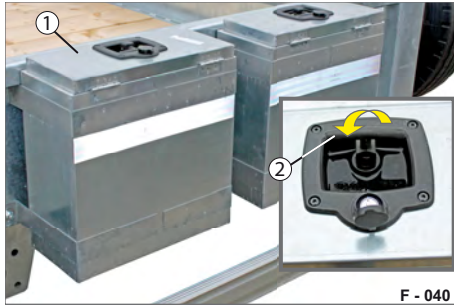

Fig. 64 Toolbox, secured
- ▶ Rotate the lock (Fig. 64/2) by 90°.
- ▶ Lock the lid (Fig. 64/1) with a key on the lock cylinder if necessary.